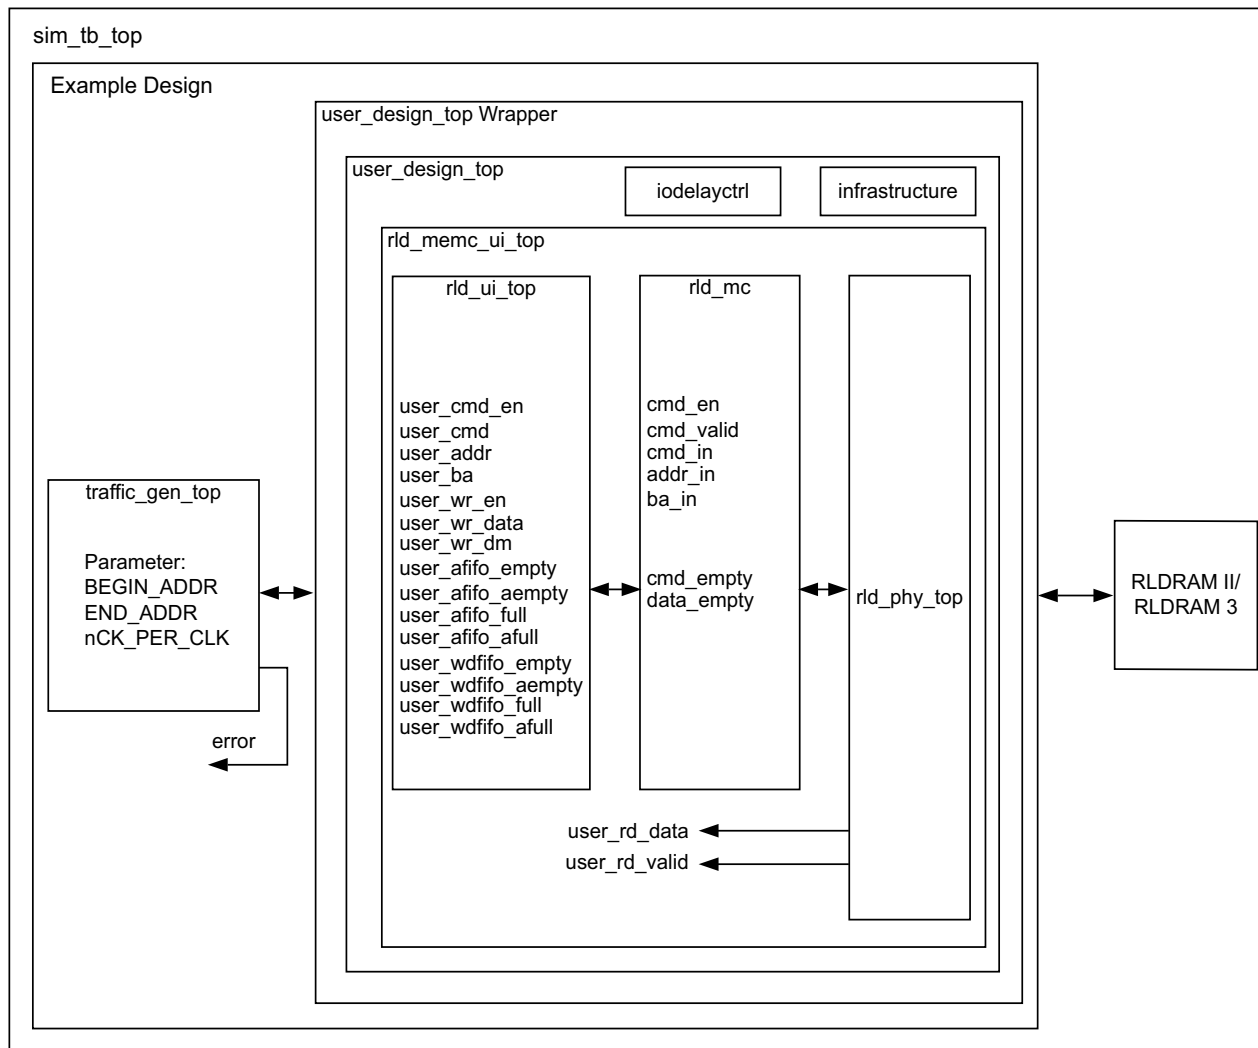

Figure 3-35: Synthesizable Example Design Block Diagram
The MIG tool provides a synthesizable test bench to generate various traffic data patterns to the Memory Controller (MC). This test bench consists of a `rld_memc_ui_top` wrapper, a `traffic_generator` that generates traffic patterns through the user interface to a `rld_ui_top` core, and an infrastructure core that provides clock resources to the `rld_memc_ui_top` core. A block diagram of the example design test bench is shown in Figure 3-35.